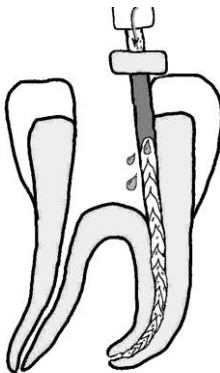

Figure 3: Attaching the irrigation tube to the SAF irrigator
11. Attach irrigation tube from any approved medical irrigation device to the SAF irrigation barb (Figure 3).